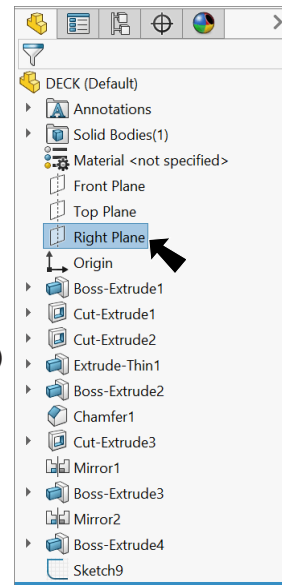

Fig. 81
Step 2. Click **Right Plane**  in the Feature Manager to display plane in graphics area, **Fig. 81**.